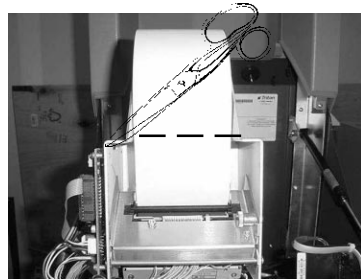
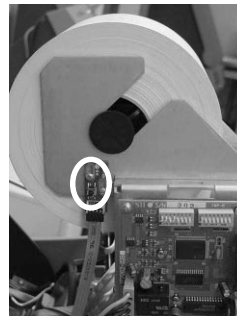

Figure 6-1. Cut paper roll here to remove.
Figure 6-2. Printer feed button.
2. If paper remains on the roll, cut the paper between the roll and the printer with a pair of scissors as shown in Figure 6-1. Use the FEED button (Figure 6-2) to feed the paper through the paper path until all paper comes out the front of the receipt paper chute.